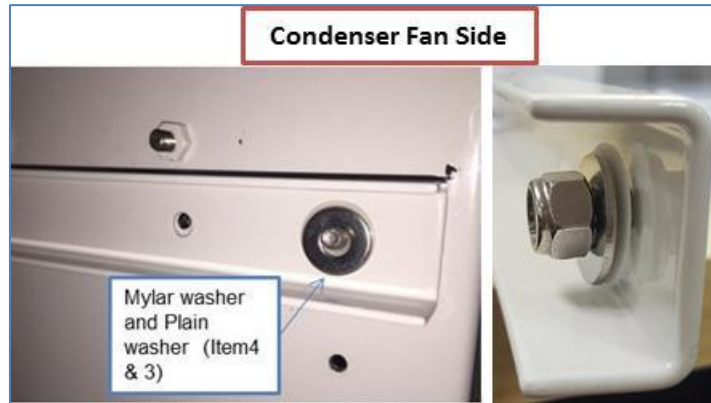

Figure 10
- Insert the Mylar washer, plain washer (Items 4 &3) and attach the self-lock hex nut (Item 5) to the screw threads from the condenser fan side as shown in Figure10.